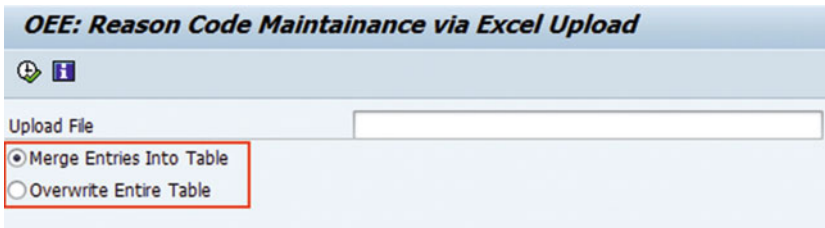

Figure 3-58. Upload reason codes
7. Select the “Merge Entries Into Table” option for the first-time upload (refer to Figure 3-58).